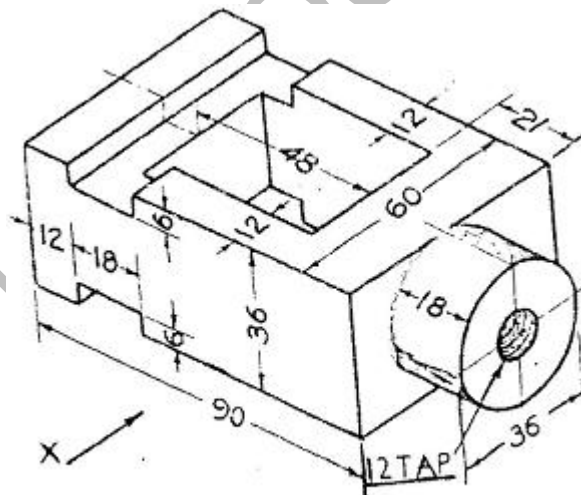

FIG. 1.
- 5 For the isometric view shown in Fig. 1 below, draw the sectional front view, side view from the right and top view.